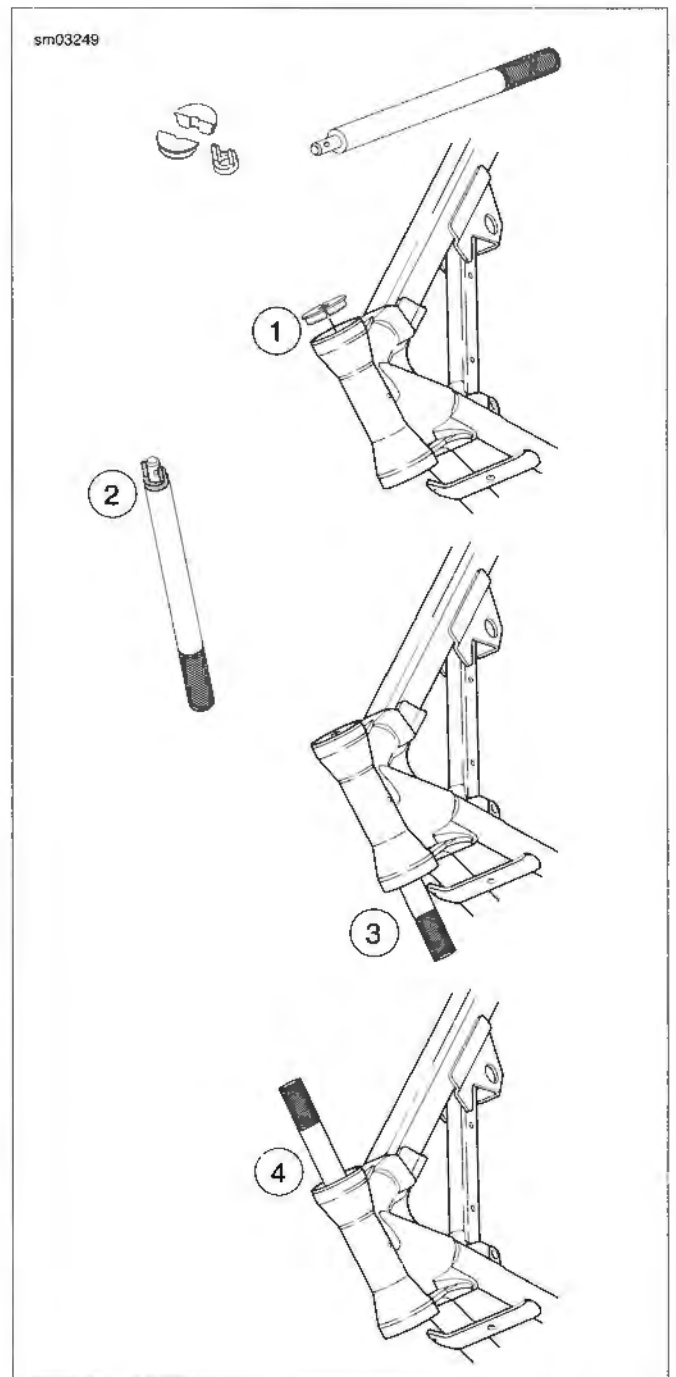

Figure 2-83. Remove Upper and Lower Steering Head Bearing Races
1. See Figure 2-83. With the tapered side down, seat the two-piece removal tool from the STEERING HEAD BEARING RACE REMOVER (Part No. HD-39301a) on the upper bearing race leaving a gap in the middle.